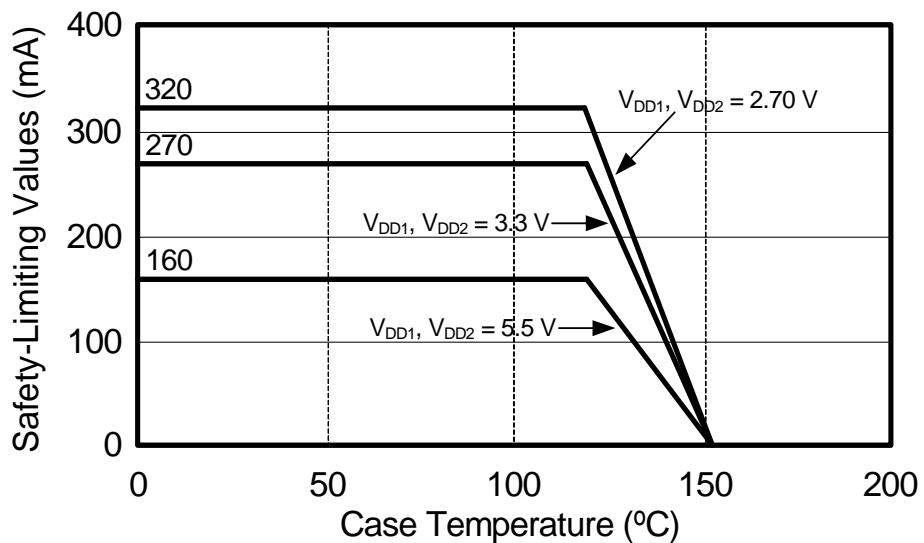

Figure 2. (NB SOIC-8) Thermal Derating Curve, Dependence of Safety Limiting Values with Case Temperature per DIN EN 60747-5-2
1. Maximum value allowed in the event of a failure; also see the thermal derating curve in Figure 2.